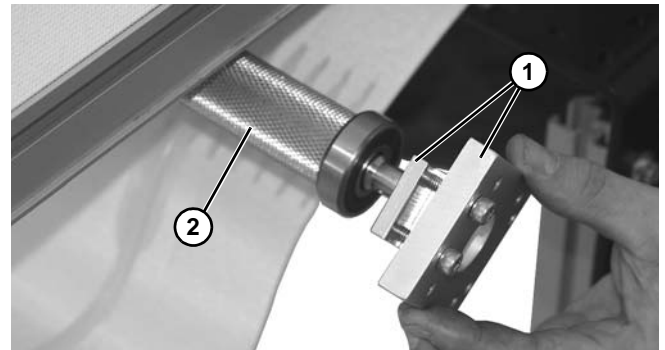

Figure 117
- Separate mounting blocks (**Figure 117, item 1**) from spindle (**Figure 117, item 2**).